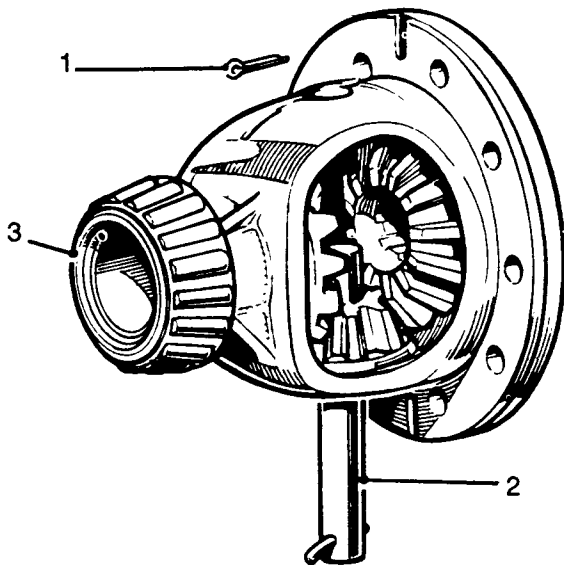
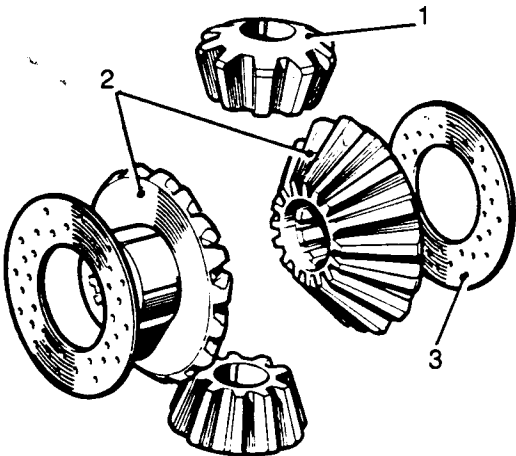

Fig J2.48
Fig J2.49
(17) Refer to Fig J2.48. Remove the split pin (1) from the differential spindle.
(18) Withdraw the spindle (2).
(19) Refer to Fig J2.49. Withdraw the pinions (1) by rotating the wheels (2).
(20) Withdraw the wheels (2).
(21) Withdraw thrust washers (3).
(22) Extract the roller bearings ((3) on Fig J2.48).